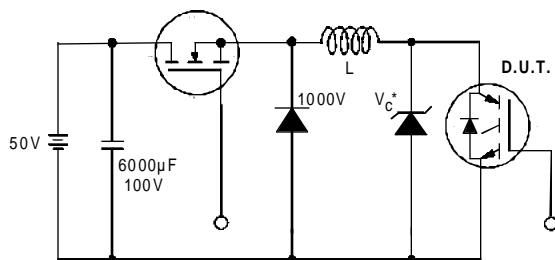

Figure 19. Clamped Inductive Load Test Circuit
- ② $V_{CC}=80\%(V_{CES})$, $V_{GE}=20V$, $L=10\mu H$, $R_G = 10\Omega$ (figure 19)
- ③ Pulse width $\leq 80\mu s$; duty factor $\leq 0.1\%$.
- ④ Pulse width $5.0\mu s$, single shot.